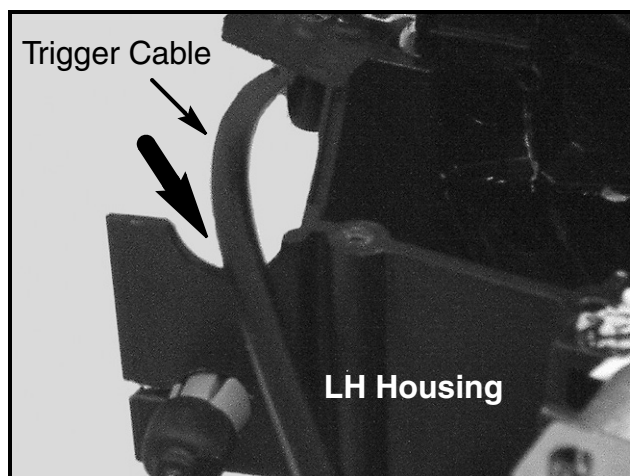

FIGURE 14
20. Before replacing the RH housing onto the LH housing ensure that the trigger cable is set in the half slot as shown in Figure 14.